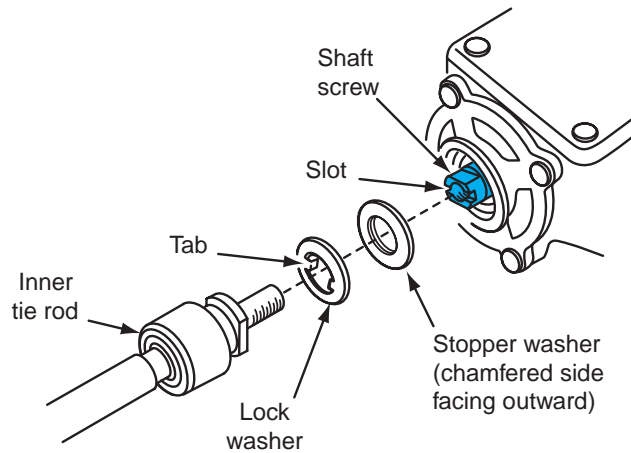

Figure 13-15 Installing the inner tie-rod end on the shaft screw.
2. Screw each inner tie rod onto the shaft screw while holding the lock washer so its tabs are in the inner tie-rod end. The stop washer must be installed on the shaft screw with the chamfered side facing outward (Figure 13-15).